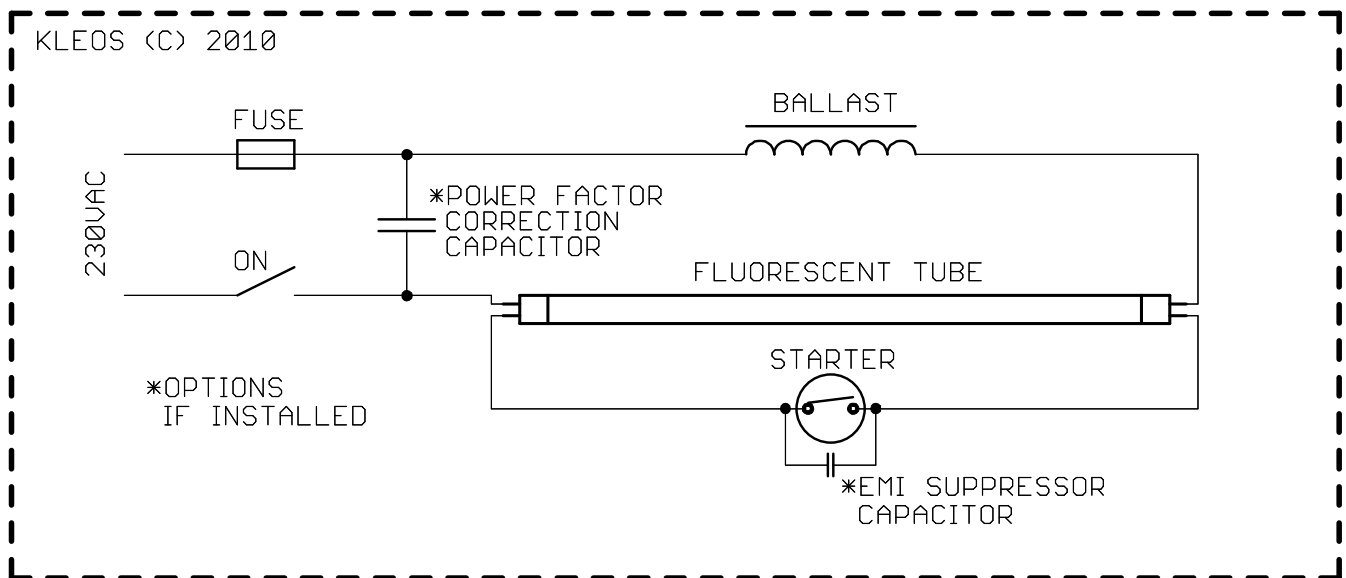

FIG. 1 - TYPICAL FLUORESCENT LIGHTING FIXTURE ELECTRICAL CIRCUITRY
1) FLUORESCENT LIGHTING FIXTURE TYPICAL (FIG. 1)